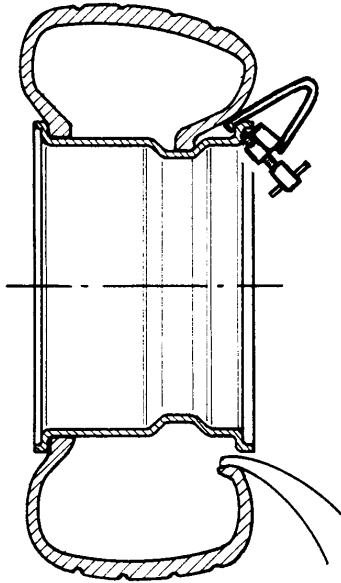

Fig.38
- H.** Position the mounting hook about 1/2" (1.5 cm) to the inside of the rim edge and 1/2" (1.5 cm) away radially. Turn the chuck clockwise until the tire is completely mounted (Fig.38).